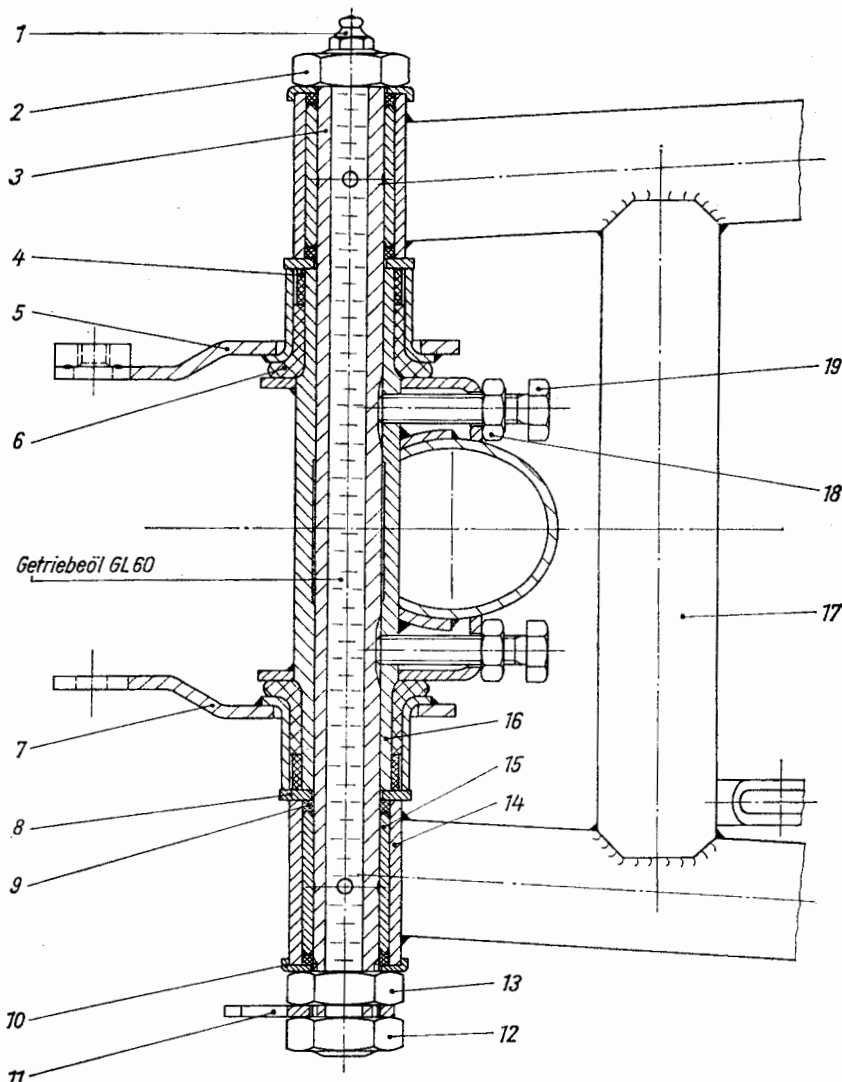

Fig. 86. Swing bearing and elastic mounting of the rear engine mounting plates (sectional view)
1. Slip bearing rubber pad, spacer ring and engine mounting plates on the frame bearing tube on the right-hand and left-hand sides (see Fig. 86).